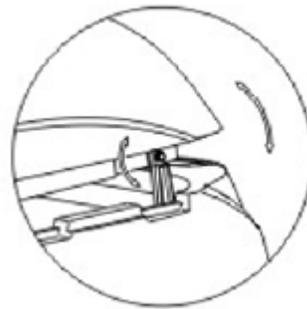
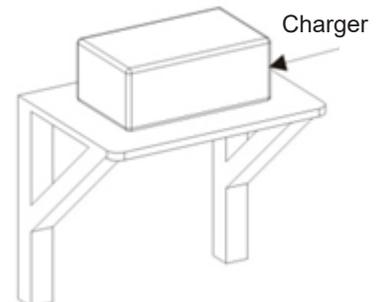

Figure 14
Figure 15
6. Hang up the dirty water tank(see figure 14). It is best to keep the charger from laying directly on the ground. You can put it on a wall holder (see figure 15), which is good for ventilating and keeping dry. Ensure the battery has good heat dissipation.